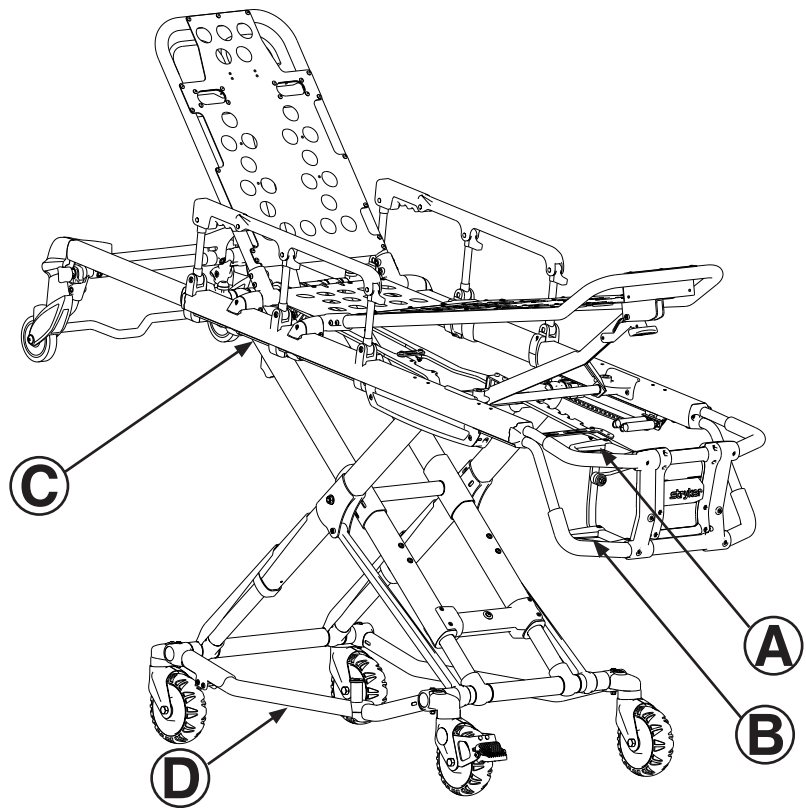

Figure 13 - Adjusting the Cot Height
1. The operator at the foot end of the cot squeezes the release handle (A or B) while a secure grip is maintained on the lifting bars (see Figure 13).
2. The operator on the patient's right or left (depending on the location of the release handle) reaches the release handle at the midpoint of the litter (C). Both operators must lift the cot until the weight is off the latching mechanism (approximately 1/4") (see Figure 13).
4. **Operator 1** – Grasp the cot frame at the foot end. Lift the foot end of the cot until the weight is off of the latching mechanism. Squeeze and hold the release handle (A or B, as shown in Figure 13 on page 27).